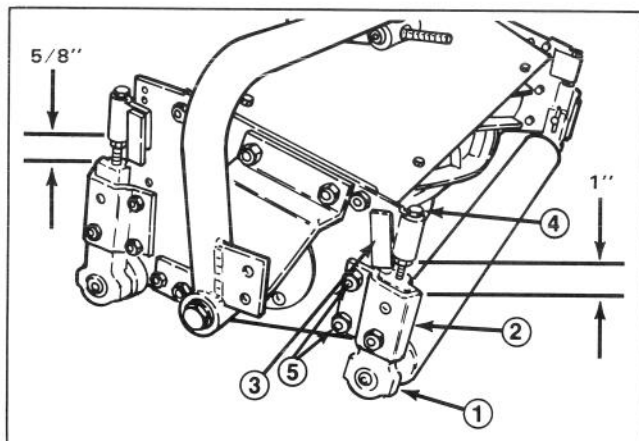

Figure 5
## MOUNT FRONT ROLLER (Fig. 5) (Floating Cutting Unit)
## SET HEIGHT OF CUT AND LEVEL REAR ROLLER (Fig. 5) (Floating Cutting Unit)
2. Slightly loosen (crack) nut securing each roller bracket to angle bracket (Fig. 5).
3. Adjust support cap screw to achieve  $1'' \pm 1/16$  dimension between Height-of-Cut support and *front* roller bracket (2 places) (Fig. 5).
4. Adjust support cap screw to achieve  $5/8'' \pm 1/16$  dimension between Height-of-Cut support and *rear* roller bracket (2 places) (Fig. 5).